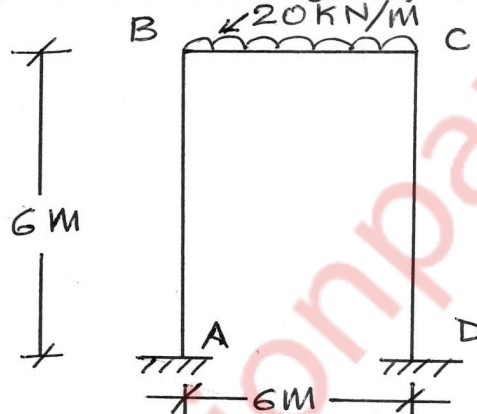

Figure 6
- Q3 a) Analyse the frame shown in Figure 6 by **Kani's Method**. Draw BMD 14